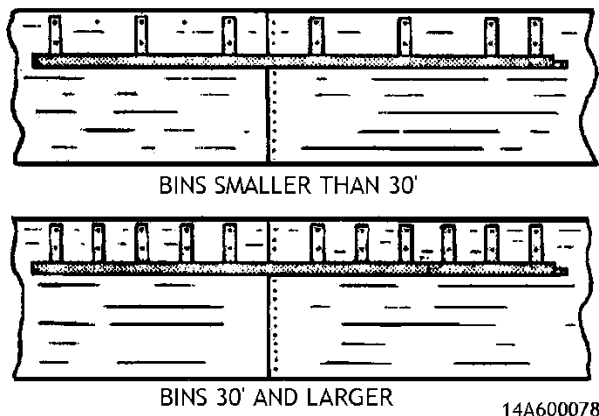
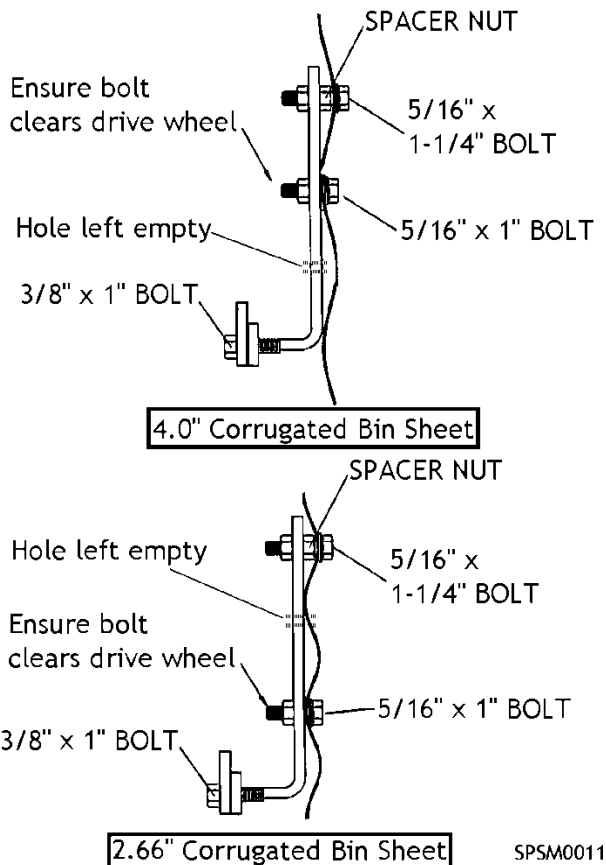

Figure 3 - Head-On View of Track Bracket Placement
Figure 6 - Side View of Track Mounted on Sukup Bin Sheets Not Punched for Track and Sheets from Other Companies
A1 For Sukup bins smaller than 30', insert 5/16" x 1-1/4" bolts in top hole of every other pair of bolt holes for track around top of bin (approximately 18" spacing). For Sukup bins 30' and larger, place bolts in top hole of every pair of bolt holes (approximately 9" spacing) except those at bin wall seam. **Figure 3, Figure 4.**
A2 Mount 1 length of track with bolts through top holes on track brackets. **Figure 3, Figure 4.**
A2.1 Note: On bins 30' and larger with a double-bracketed track, a gap has been left to prevent interference between seam bolts and track brackets. Install first section of track with seam in place of missing bracket. **Figure 3.**
B1 For bins smaller than 30', insert 5/16" x 1-1/4" bolts in single ring of bolt holes around top of bin (approximately 18" spacing). For bins 30' and larger, place bolts in every bolt hole (approximately 9" spacing) except those at bin wall seam. **Figure 3.**
B2 Tighten 5/16" spacer nuts onto these bolts. **Figure 6.**
B3 Mount first segment of track over bolts and screw on a second 5/16" nut. **Figure 3, Figure 6.**
- B3.1 *Note:* On bins 30' and larger with a double-bracketed track, a gap has been left to prevent interference between vertical seam on sidewall sheets and track brackets. Install first section of track with bin wall seam in place of missing bracket. **Figure 3.**
- B5 After all track sections are in place, drill second, lower bolt holes through bin sheets using track brackets as pattern. **Figure 6.**
- B6.1 *Note:* Leave unused track bracket holes empty. **Figure 6.**
- C3 Insert 5/16" x 1-1/4" bolt through top bolt holes. **Figure 6.**
- C4 Mount first segment of track over bolts and screw on 5/16" nuts. **Figure 6.**
- C5 Insert 5/16" x 1" bolts in lower holes of track bracket and add 5/16" nuts. Tighten using 1/2" wrench. **Figure 6.**
- C5.1 *Note:* Leave unused track bracket holes empty. **Figure 6.**